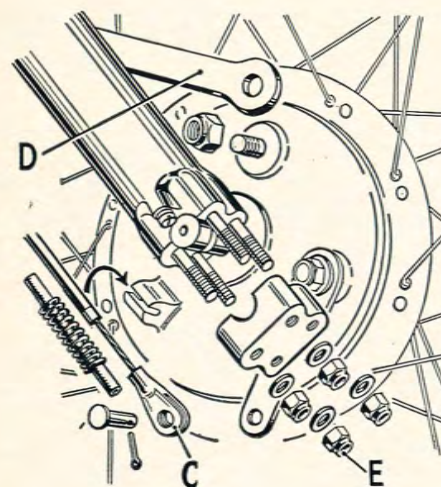

Fig. 22.
Slacken the brake cable as much as possible by means of the adjuster at the handlebar lever and extract the pivot pin from the clevis (C) Fig. 22. Remove the outer cable from its socket on the brake cover plate to release the cable completely. Detach the torque arm (D). Take off the fork leg end caps to remove the wheel, and as the nuts (E) are unscrewed, support the wheel in order to avoid damage to the stud threads.